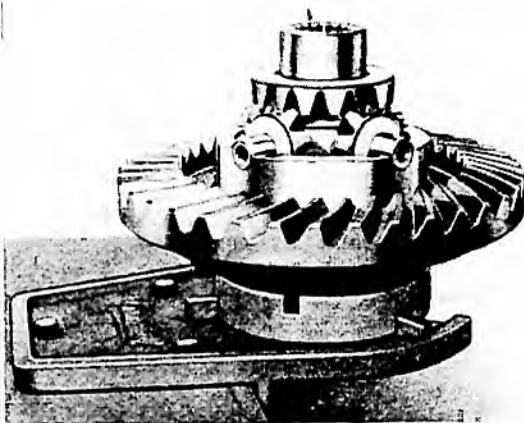

FIG. 9 DIFFERENTIAL CASE ASSEMBLY PARTIALLY DISMANTLED
4. Remove locking wire and differential gear case setscrews. Lift off right-hand differential gear case as shown in Fig. 9.